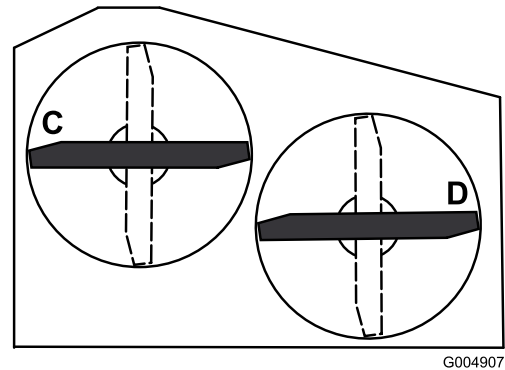

Figure 69
2. Position the blades side-to-side. Measure at C and D locations from a level surface to the cutting edge of blade tips (Figure 68). For 36 inch mower decks use Figure 69.